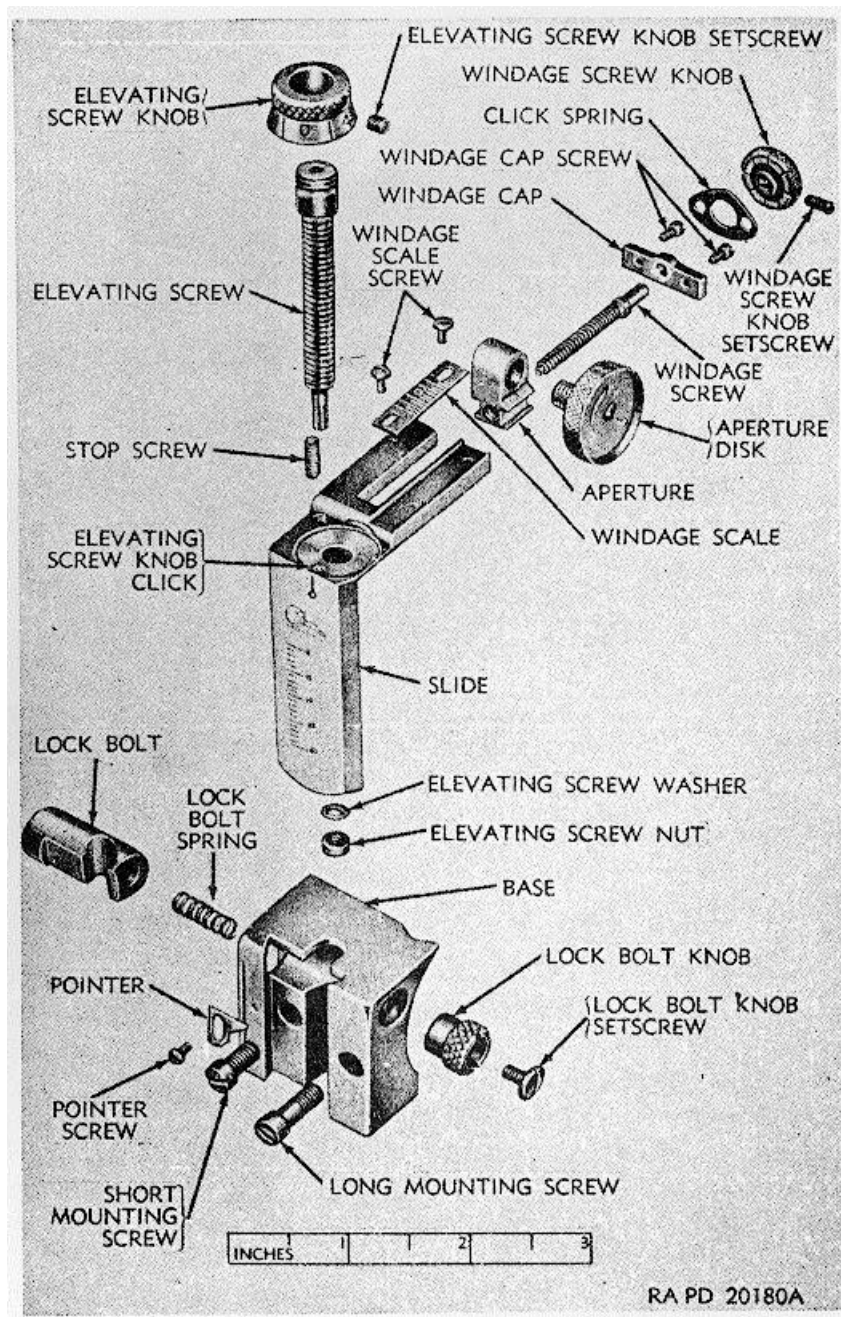

Figure 66. Lyman rear sight 48WH assembly-exploded view.
- (1) Replace inserts if they are worn or broken.
- (2) Replace worn or broken insert holding nut and base locking bolt.
*b. Disassembly (fig. 66).*
- (1) With a small jeweler's screwdriver, loosen the windage screw knob setscrew in the windage screw knob, and remove the knob and rear sight click spring. Remove the two windage cap screws from the windage cap and remove the cap.
- (2) Unscrew the rear sight aperture disk from the rear sight aperture.
- (3) Remove the rear sight aperture and rear sight windage screw. Remove the screw from the aperture.
(4) Unscrew the two rear sight windage scale screws and remove the rear sight windage scale.
(5) With a split-type screwdriver, remove the elevating screw nut on the bottom of the elevating screw and remove the elevating screw, elevating screw knob, and washer. The knob may be removed from the screw by loosening the elevating screw knob setscrew in the knurled portion with a jeweler's screwdriver.
(6) Remove the rear sight lock bolt knob setscrew from the center of the lock bolt knob, and remove the rear sight lock bolt knob and lock bolt spring. Remove the lock bolt.
(7) Remove the rear sight pointer screw and rear sight pointer.
(8) The rear sight stop screw can be removed by unscrewing it from the slide.
- (4) Check functioning of the lock bolt knob.
- (5) Check "numbers" on windage scale and sight slide for wear.
- (6) Examine threads of elevation screw and windage screw for wear or burs.
- d. Assembly (fig. 66).
- (1) Insert the rear sight lock bolt and lock bolt spring into the rear sight base.
- (2) Place the lock bolt knob on the lock bolt and install the lock bolt knob set screw in the center of the knob.
- (3) Assemble the rear sight elevating screw knob on the elevating screw and tighten the elevating screw knob set screw in the knob. Install the rear sight stop screw in the rear sight slide and adjust it for zero elevation. Install the elevating screw in